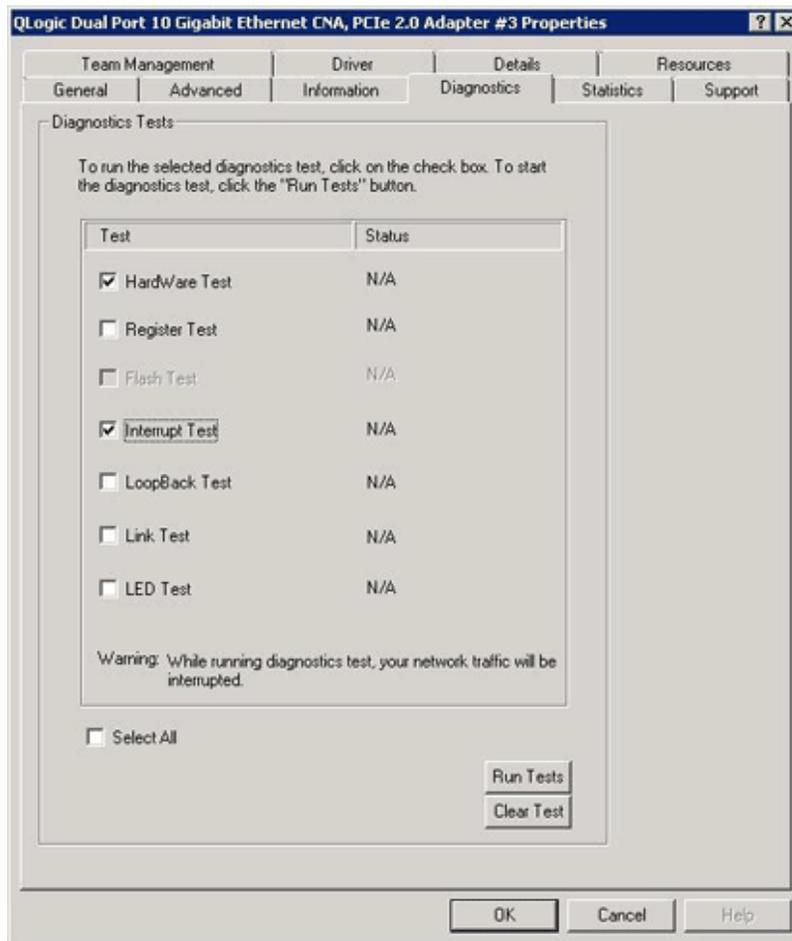

Figure 2-24. Diagnostics Tests on Windows
3. On the adapter properties page, click the **Diagnostics** tab. Figure 2-24 shows the **Diagnostics** page.